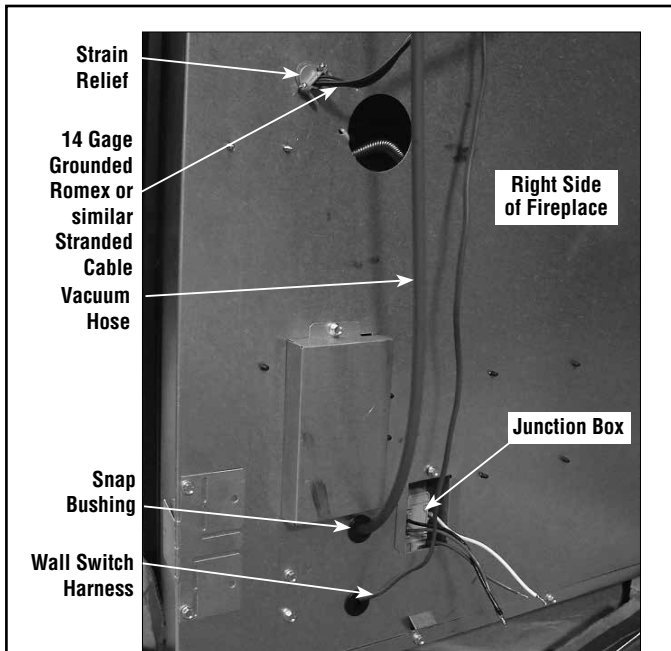

Figure 22 - Routing Wiring
- Install the strain relief in the hole provided on the right side of fireplace for the electrical wiring (see Figure 22).